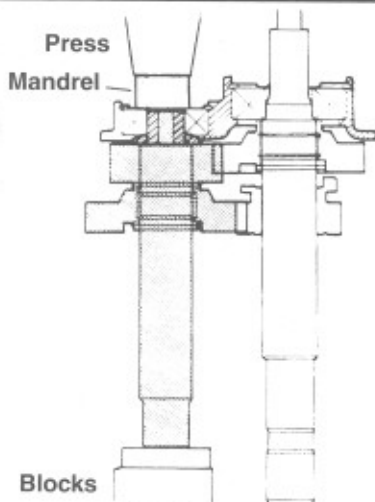

Figure 6-39.
10. See Figure 6-39. Stand countershaft assembly on press with small end (end with threaded hole) upward. Place access cover and mainshaft assembly on top of countershaft with bearing (1) in access cover over end of countershaft. Place a socket or section of pipe on inner race of bearing (1). Hold assembly straight, making sure gear teeth on countershaft are engaged with gear teeth on mainshaft, and press bearing onto shaft until beveled spacer bottoms against bearing.